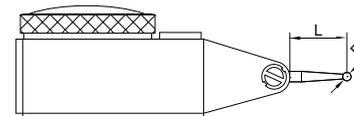

fig.6
3. Each type of dial test indicator has specific length of styli (L, fig.6). If the length is not correct, measurement error will result. Please refer to the table to choose correct styli series 6284.